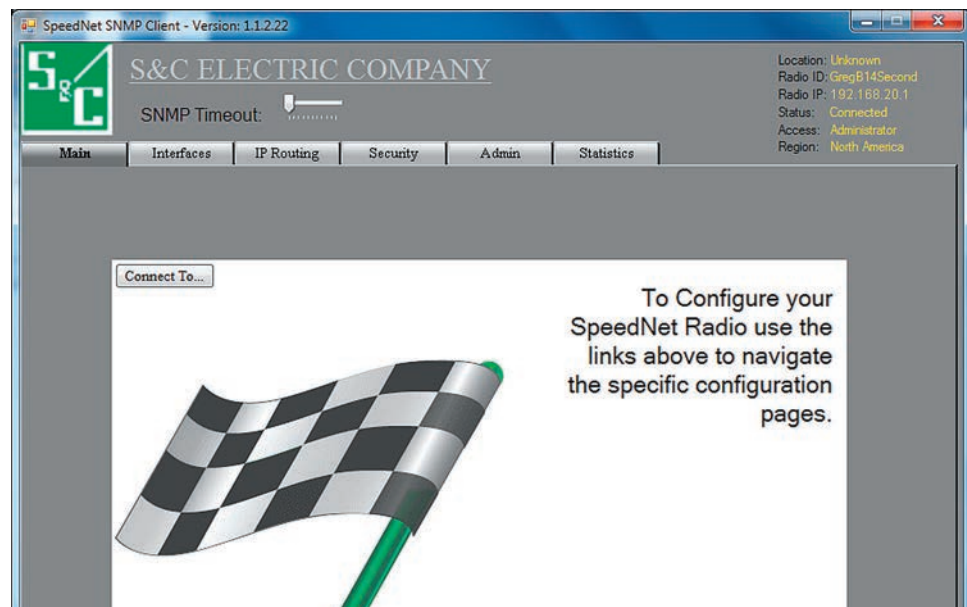

Figure 15. Main screen for SpeedNet configuration.
STEP 13. The *Main* screen will open, as shown in Figure 15. Click the **Interfaces** tab. See Figure 15.